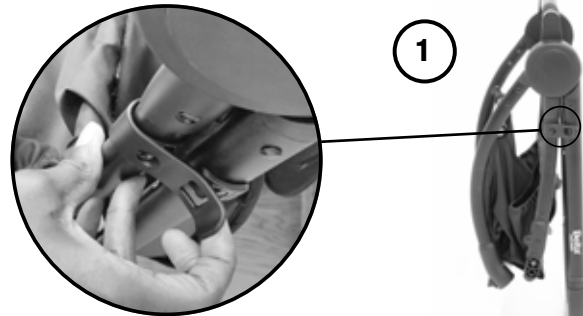

Fig. 1
- **To unfold the stroller:** Unhook the latch, located on the left side of the frame (Fig. 1).